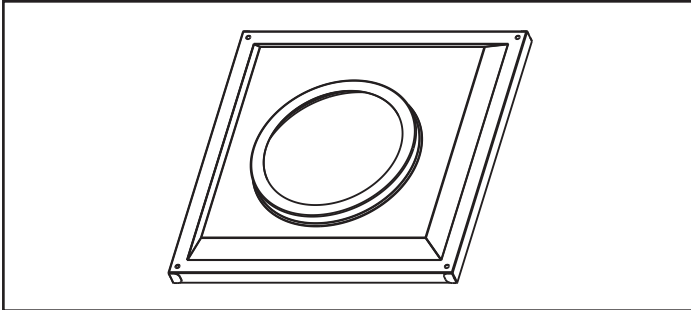

Figure 7.16 - Wall Thimble
- Once the pipe section and the termination cap have been connected, slide the wall thimble up to the interior wall surface and attach with screws provided. See Figure 7.16.